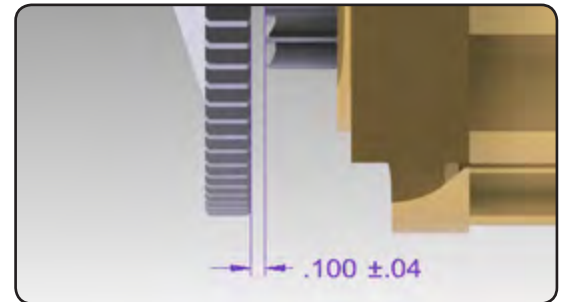

Figure 1
2. When installing a Tilton XLT Super Starter there are several dimensions that must be within specified ranges for proper functioning. As shown in **Figure 1**, the pinion to ring gear clearance should be $.090" \pm .030"$. This is with the pinion at rest. If it is not possible to see the pinion when the starter is installed, as with some with plate mounted starters, measure from the face of the clutch housing that the starter plate rests against to the ring gear. Then, measure from the face of the starter plate (nearest the flywheel) to the end of the pinion at rest. The difference is the pinion to ring gear clearance.